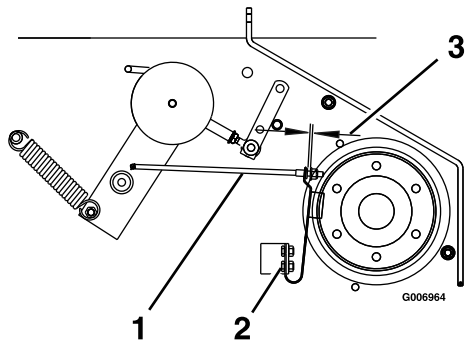

Figure 18
3. Make sure the blade brake pad rests against the sheave. Adjust the spring mounting bolts to properly align the pad on the sheave (see Figure 18).
4. Check the distance between the spacer and the nut at the end of the blade brake rod. The distance should be between 1/8 inch (.32 cm) and 3/16 inch (.47 cm) (see Figure 18).